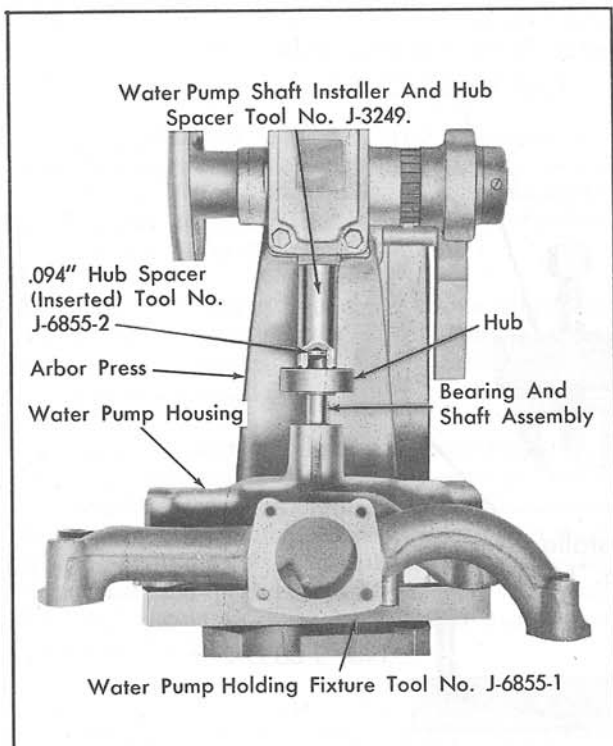
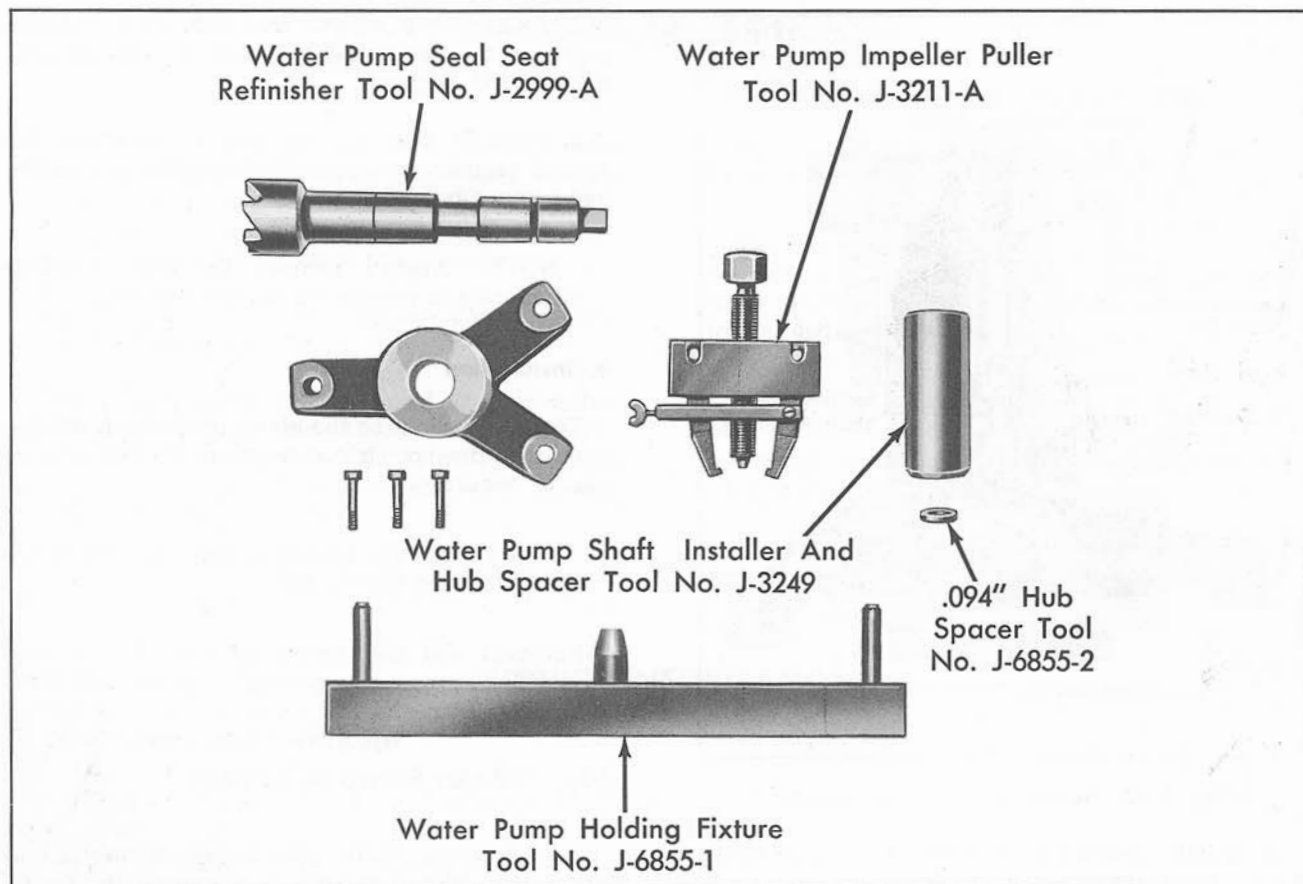

Fig. 11-2 Pressing Hub on Bearing Shaft
Fig. 11-3 Special Tools
4. Press new hub on bearing shaft, Fig. 11-2, using Water Pump Holding Fixture, Tool No. J-6855-1; Hub Spacer Tool, No. J-3249; with .094" Hub Spacer, Tool No. J-6855-2, inserted, Fig. 11-3, until tool bottoms on shaft. Spacer assures proper positioning of hub on bearing shaft so that there is sufficient clearance between the fan pulley and the water pump housing.